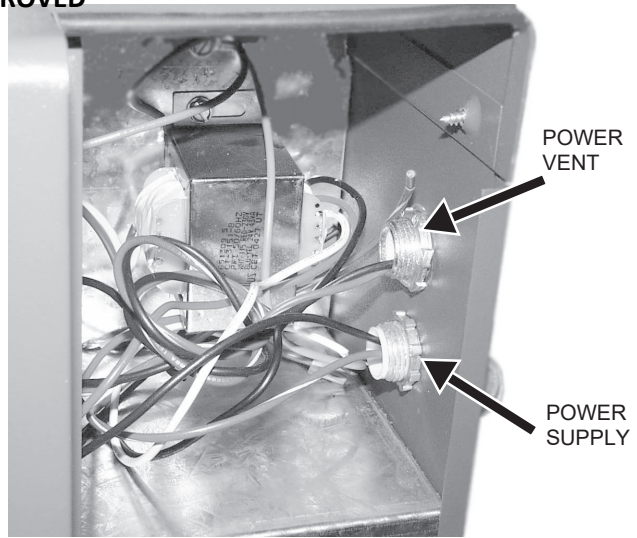

Figure 15. Conduit Routing
13. Install the right side outdoor conduit through the top 7/8" hole located on the right side of the heater. See **Figure 15**.